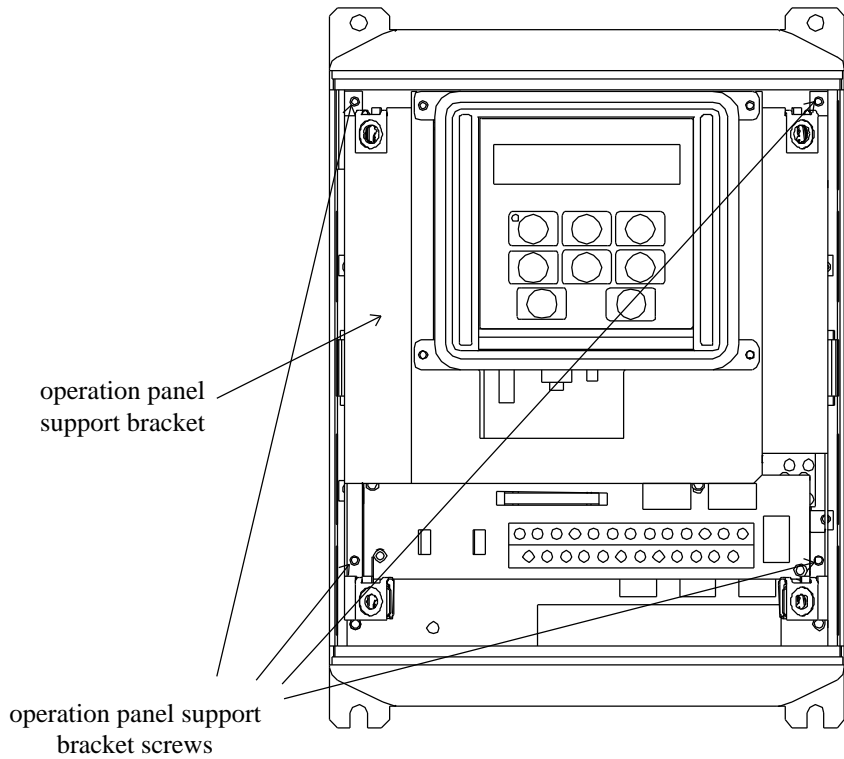

Figure 1: E3 with front cover removed
- Loosen the 4 screws attaching the E3's operation panel support bracket to the control board support bracket, and then remove the operation panel and support bracket as a unit (refer to Figure 1).